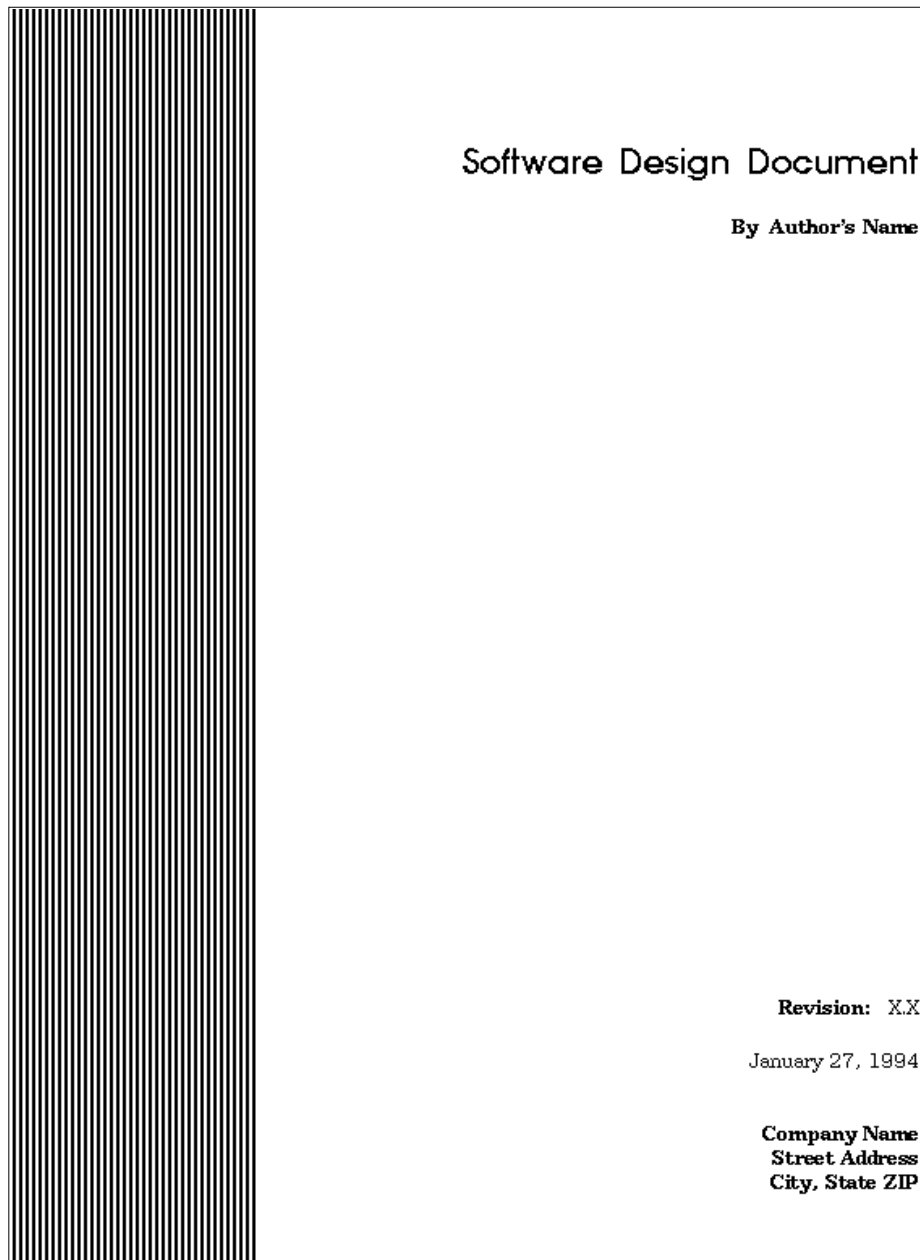

FIGURE B-1 Generic Title Page
The MML file that you have generated (in this case, `Controller_Logic.mml`) includes a generic title page that appears as shown in Figure B-1 after it is imported into FrameMaker. If you want to change the data on the title page, you can accomplish this in three different ways:
- Using a text editor you can edit the `fmgp.tpl` data. Figure B-2 shows the data in the `fmgp.tpl` file that produces the title page shown in Figure B-1. You should make these changes to `fmgp.tpl` *before* you generate the document from SystemBuild. All subsequent documents generated by DocumentIt using `fmgp.tpl` will continue to have your new title page (until you change the contents of `fmgp.tpl` again).
- Using a text editor you can edit the MML output file you have just generated. Figure B-2 shows the data in the example file `Controller_Logic.mml` that produces the title page shown in Figure B-1. If you regenerate the document, you will have to edit this file again.